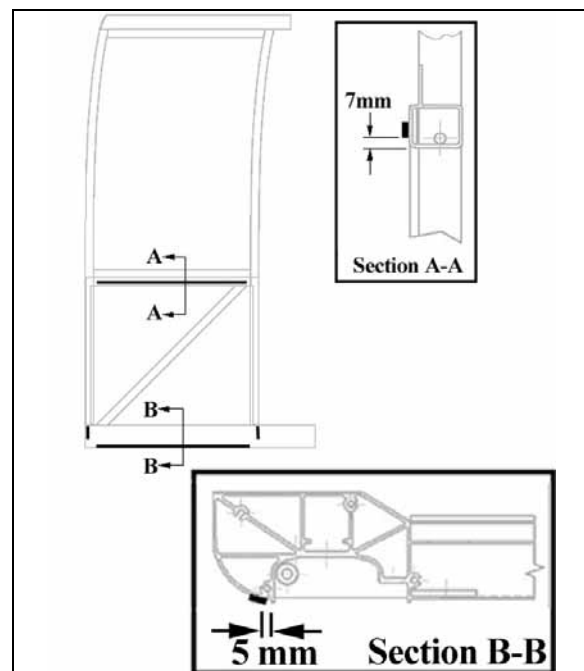

FIGURE 42 : SIDE PANEL INSTALLATION – DOUBLE FACE ADHESIVE TAPE APPLICATION ON THE SLIDE-OUT STRUCTURE
3. Refer to figure 42 for 1/16x1/4 double face adhesive tape location on structure Do not remove the tape blue protective layer [7mm≈9/32"] [5mm≈6/32"];